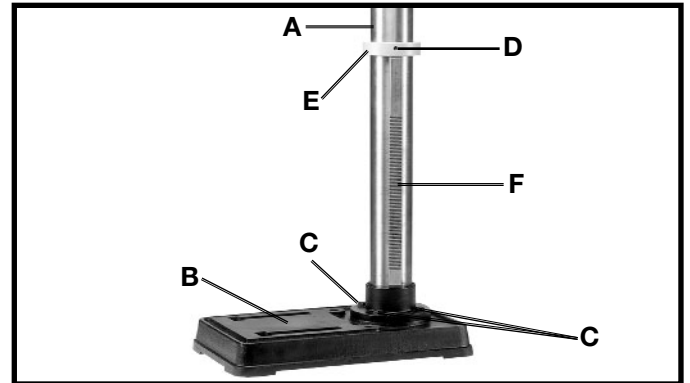

Fig. 3
1. Assemble the column (A) Fig. 3, to the base (B) using the four screws (C), three of which are shown. Loosen set screw (D) and remove ring (E) and raising rack (F).